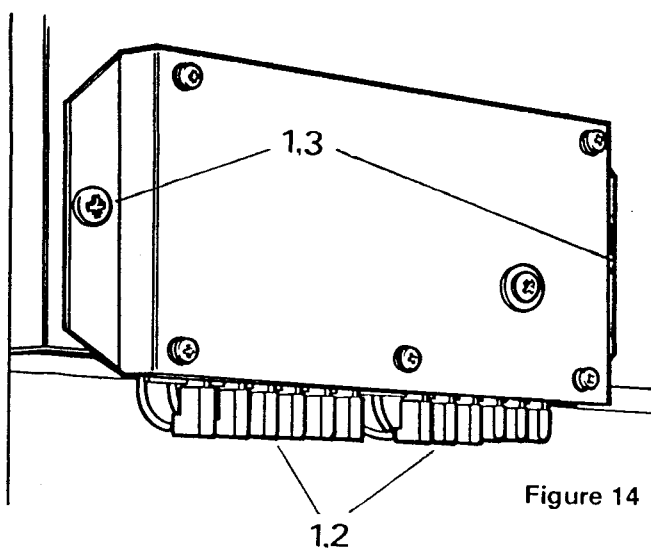

Figure 14
1. Remove two retaining screws, carefully lower control box from under fascia, and disconnect the twelve terminals, see Figure 14.